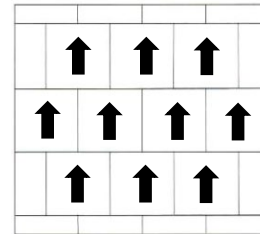

Figure 1
- Note: Each tile has an arrow on the underside signifying the direction of manufacture. All tiles should be installed so that the arrows are pointing in the same direction. (see figure 1)